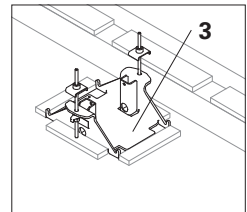

Fig. B1.07a
2. Position 4x Table Head Middle Part VD (3) and align exactly with the stopping boards. (Fig. B1.07a)